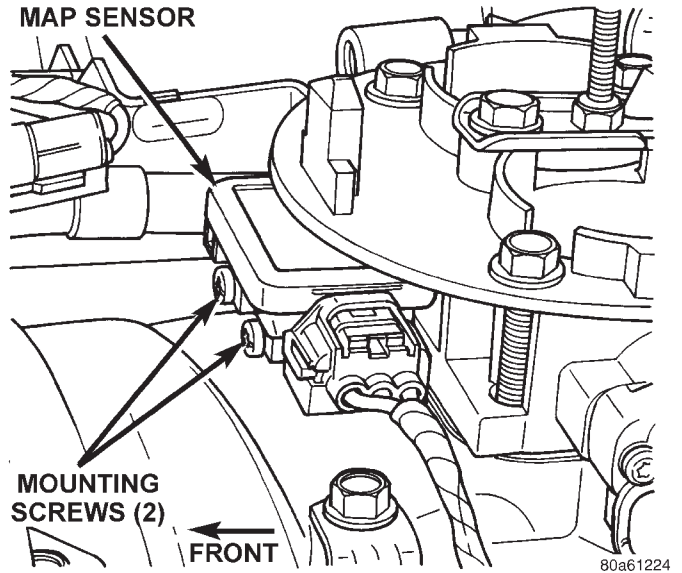
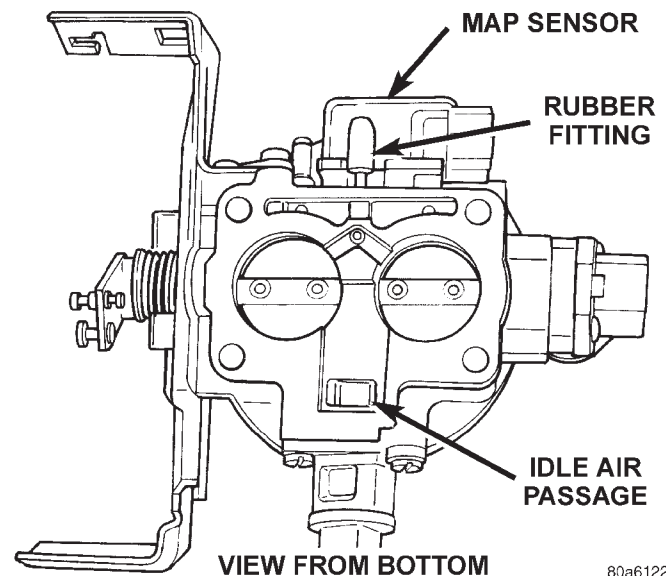

Fig. 73 MAP Sensor Mounting Screws—5.2L/5.9L Engines
Fig. 74 MAP Sensor L-Shaped Rubber Fitting—5.2L/5.9L Engines
The MAP sensor is located on the front of the throttle body (Fig. 73). An L-shaped rubber fitting is used to connect the MAP sensor to throttle body (Fig. 74).
- (1) Remove air duct at throttle body.
- (2) Disconnect electrical connector at sensor.
- (3) Remove two MAP sensor mounting bolts (screws) (Fig. 74).
- (4) While removing MAP sensor, slide the vacuum rubber L-shaped fitting (Fig. 74) from the throttle body.